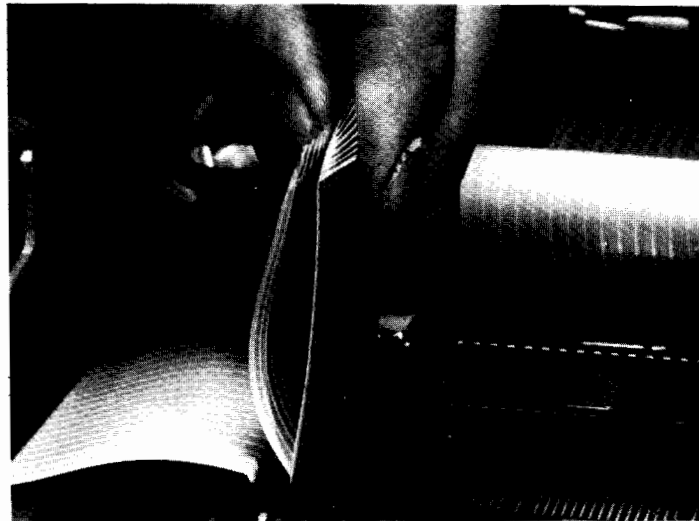

Figure 3-6. Removing a Trapped Cable
- a. Insert a spare cable of the same type and width into the connector between the trapped cable and the connector contacts. (See figure 3-6.) The contacts of the spare cable should face the contacts of the trapped cable, not the contacts of the connector.